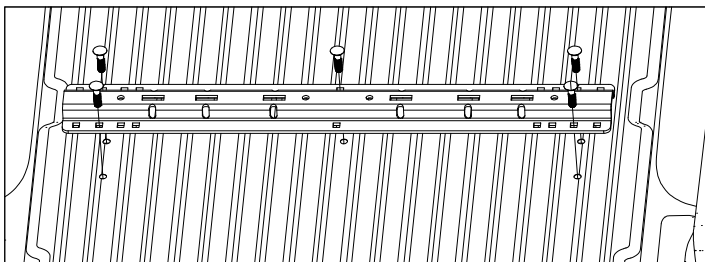
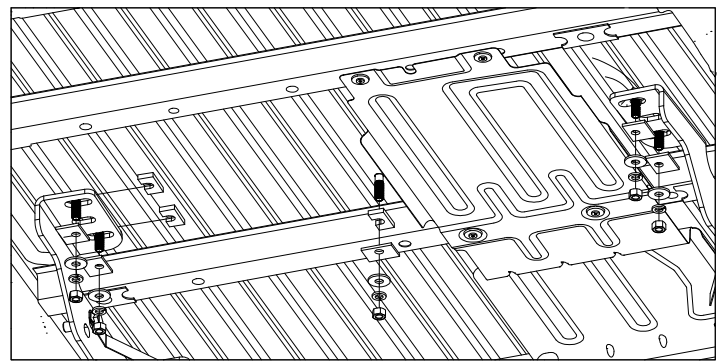

Figure D1: View looking into truck bed from rear of truck.
Figure D2: View under bed looking up toward cab. (Frame not shown)
1. **Install the rear mounting rail.** Re-position the rear mounting rail over the drilled 9/16" holes in the bed. Install a 1/2" carriage bolt through the mounting rail into each of the five drilled holes, as shown in Figure D1. Under the bed install an offset square washer, 1/2" flat washer, 1/2" lock washer and 1/2" finish nut on each of the carriage bolts, see Figure D2. Place the U-shaped spacers, see note above. Hand tighten each nut.